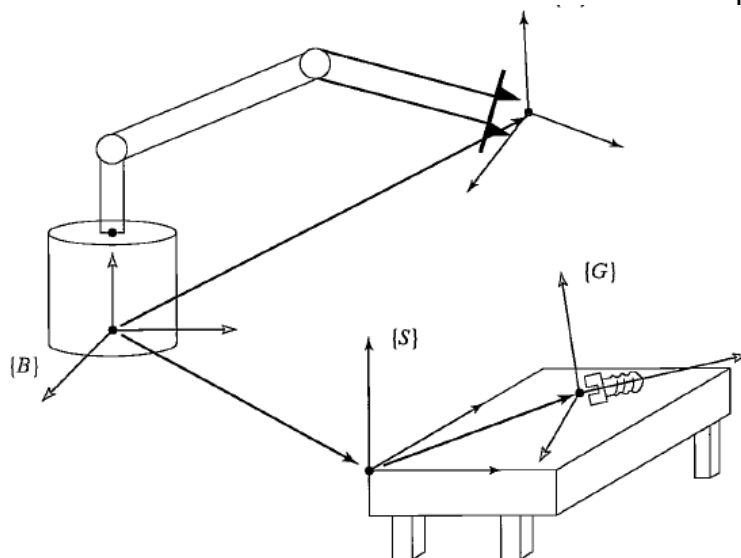

Figure Q.5B
- 5B.** Assume that we know the transform A_BT in Figure Q.5B, which describes the frame at the manipulator's fingertips relative to the base of the manipulator $\{B\}$. The location of tabletop $\{S\}$ with respect to the manipulator's base is also known. The location of the frame attached to the bolt lying on the table relative to the table frame is also known. Calculate the position and orientation of the bolt relative to the manipulator's hand. **03**